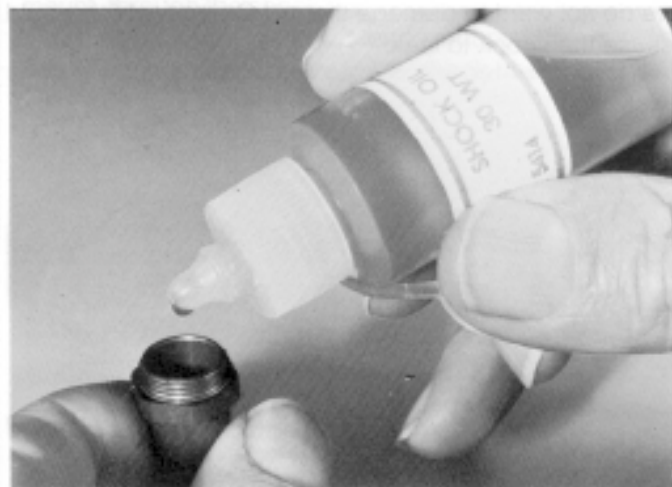

Fig. 50
□ **Fig. 50** Put a few drops of oil into the bottom of the #6427 shock body. This will make installation of the internal parts easier and safer. The red O-rings are fragile, and it is very important that we do not accidentally damage them while they are being forced into the body.